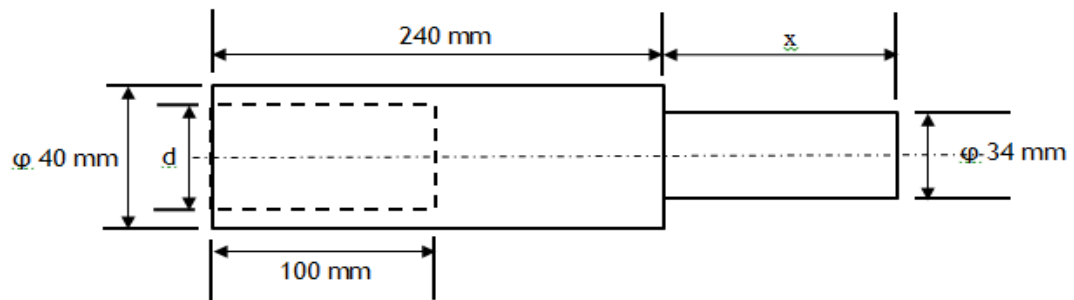

Fig Q7
7. The stepped steel shaft shown in Fig Q7 is to transmit a torque. The larger diameter section of the shaft is to have a hole drilled in it to a depth of 100 mm.